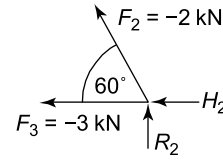

Figure 6.33
**Consider next joint 3;** see Figure 6.33.